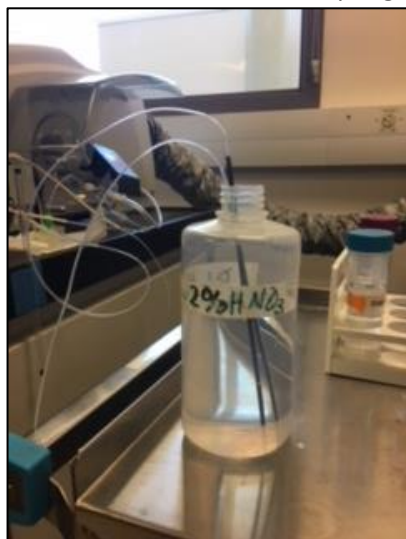

Figure 8: Both sampling wands in 2% HNO_3 . The HNO_3 used is trace clean so that there are no metal contaminants.
- a. Insert both sampling wands in 2% nitric acid (HNO_3) solution (**Figure 8**).